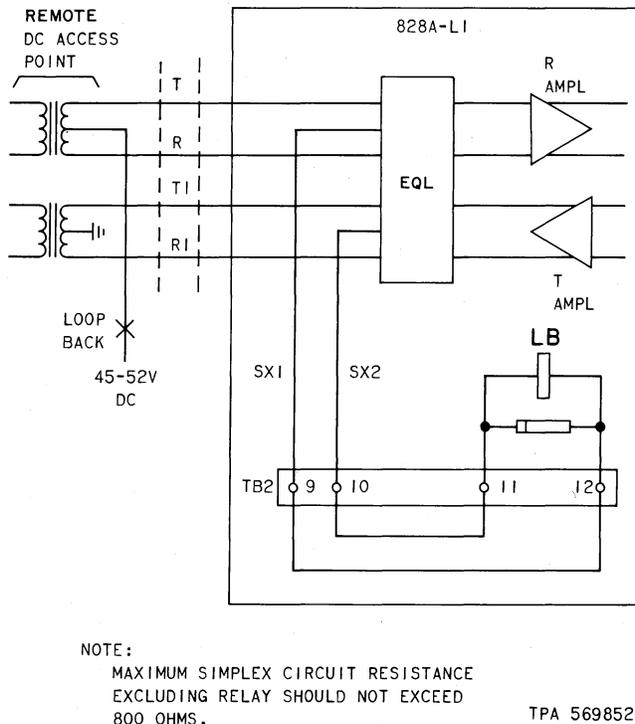

Fig. 8—Remote Loop-Back Circuit for DAS 828A-L1
3.11 DAS 828A-L1 can be looped back remotely from a dc access point, such as a central office or testing center. Figure 8 shows the circuit and connections required. The LB relay is operated over the simplex pair by applying 48-volt dc central office battery. Since a minimum of 30 mA is required to operate the LB relay, a maximum circuit resistance of 800 ohms is specified. This corresponds to a loop resistance of 1600 ohms per loop. There is no requirement to build out the circuit on short loops.